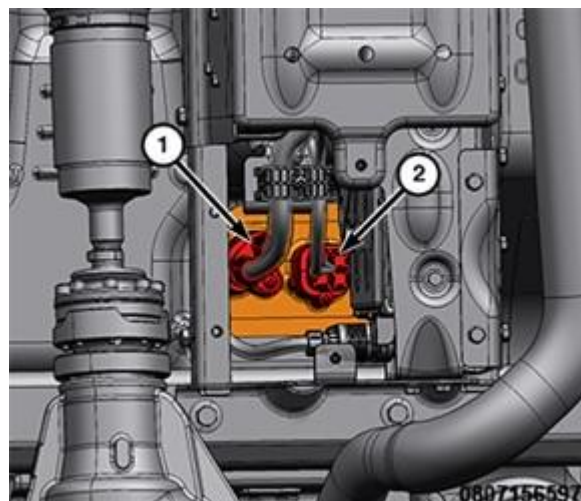

Figure 12 – HV Battery Wiring Connectors
17. Disconnect the HV wire harness connectors (1) and (2) from the HV battery (Figure 12).